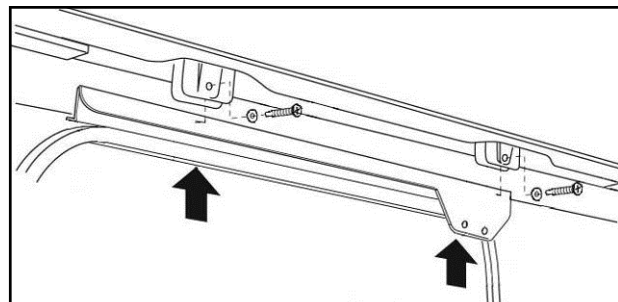

Figure 10: Attach Top of Side Frame to Grab Handle Mounting Points
2.6. Fasten two 1" self-drilling Phillips head screws with #10 washers from the inside of the cab through the hole in the roof (where grab handle was previously bolted) and into the top of the sideframe. (Figure 10)